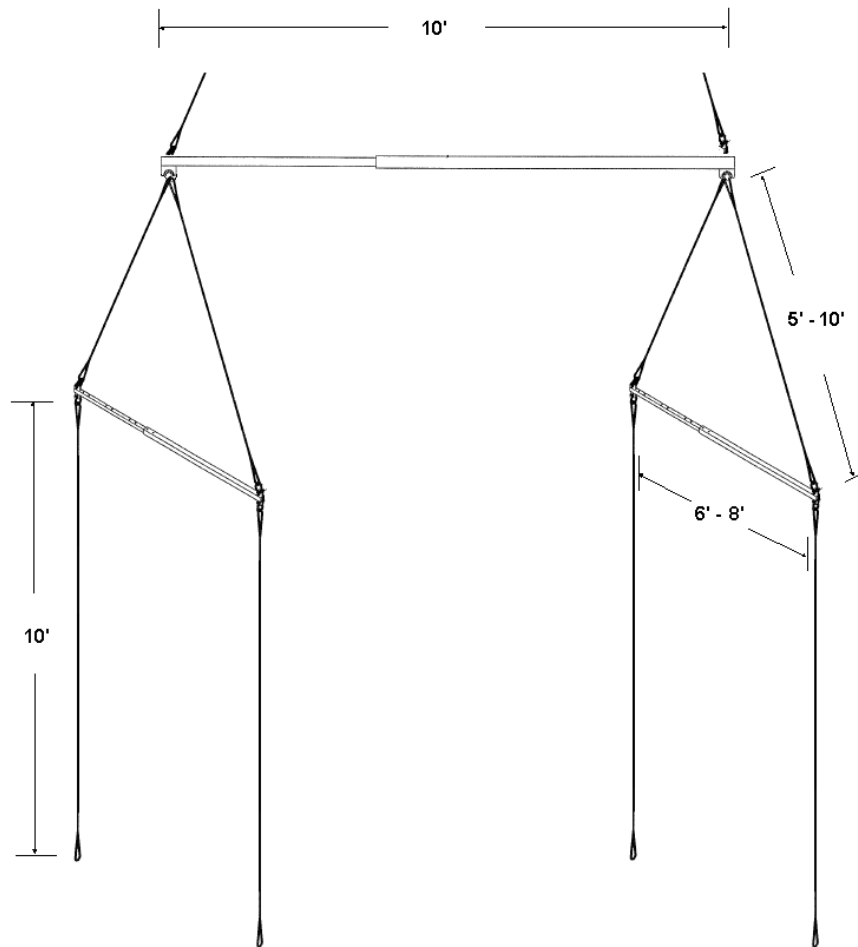

Figure 15 – Required Spreader Bar Configuration
This method involves using a 10’ spreader bar and two cross bars in an “H” configuration (see Figure 15).
2. Attach other ends of LIFTING STRAPS to SHACKLES located on the crane’s spreader bar. Ice Energy recommends a 10’ spreader bar in an “H” configuration with two 6’- 8’ bars running perpendicular (see Figure 15).